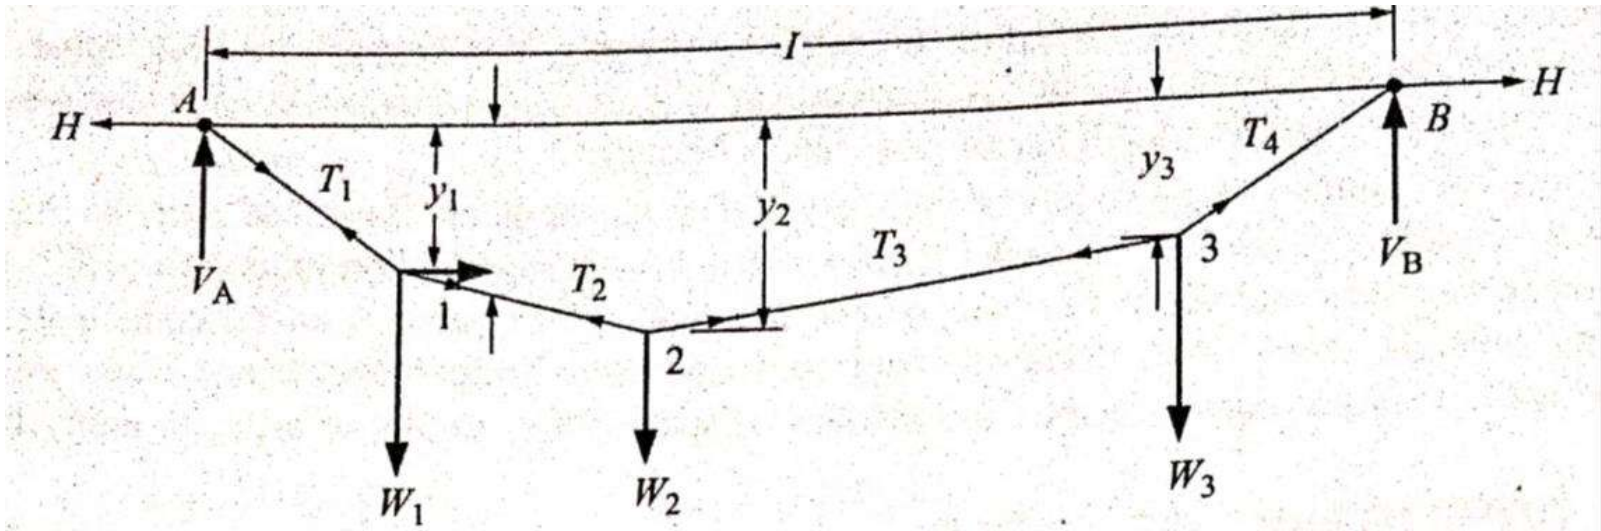

Figure 5: Cable subjected to concentrated loads
- Consider the cable of length L spanning over a horizontal gap l subjected to the concentrated loads as shown in Figure 5.